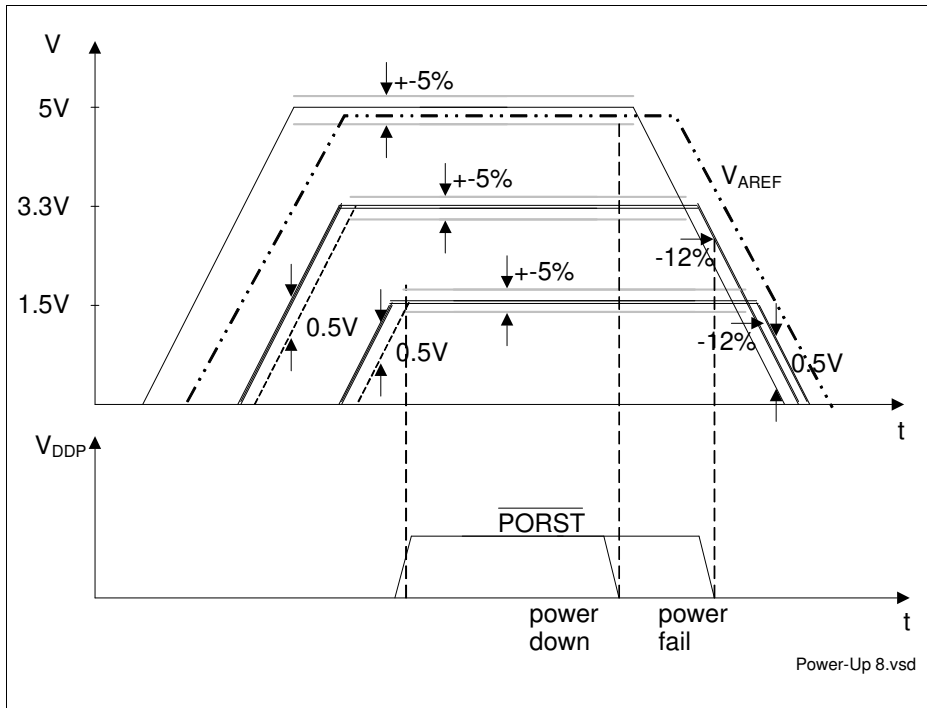

Figure 26 5 V / 3.3 V / 1.5 V Power-Up/Down Sequence
- At any moment, each power supply must be higher than any lower power supply - 0.5 V, or: $V_{DD5} > V_{DD3.3} - 0.5 \text{ V}$; $V_{DD5} > V_{DD1.5} - 0.5 \text{ V}$; $V_{DD3.3} > V_{DD1.5} - 0.5 \text{ V}$, see Figure 26.